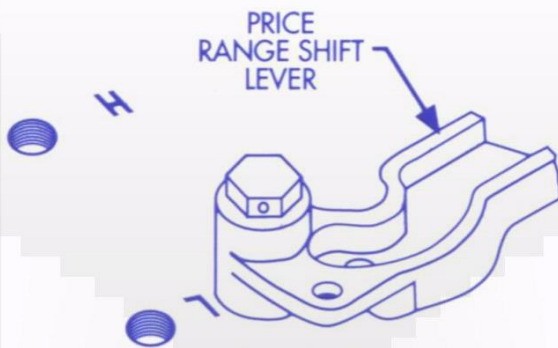

FIGURE 3
- 3) Set price range shift lever in the "L" or "1/10" position (see Figure 3).
- 3) Set price range shift lever position to the "L" or "1/10" position (see Figure 3).
- 3) Move price range shift lever to the "H" or "1" position (see Figure 3).